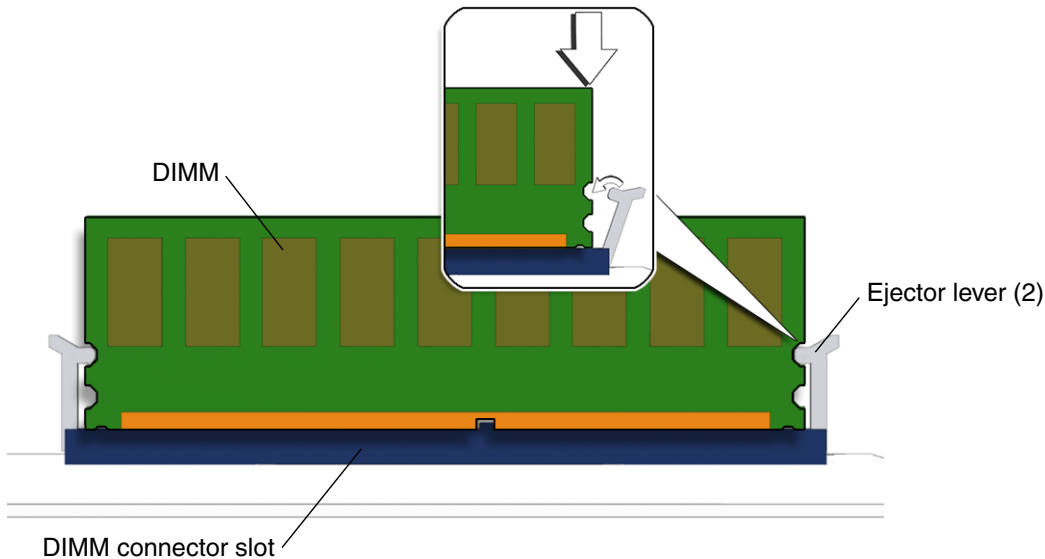

FIGURE 11-7 Securing the DIMM (View from Top of Motherboard Tray)
6. Insert the DIMM into the connector slot (FIGURE 11-7).